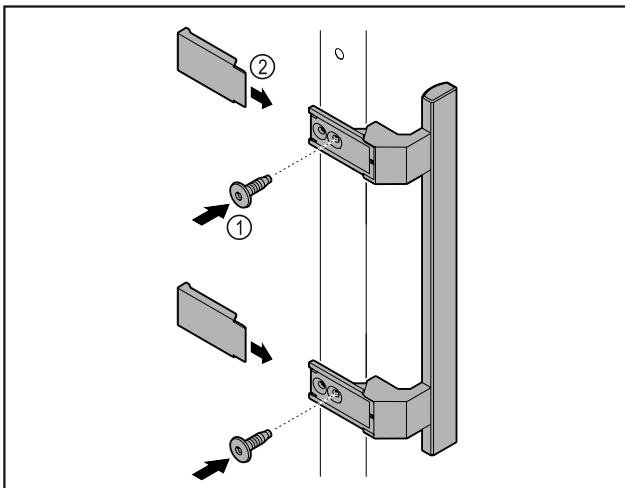

Fig. 5
- Attach handle from accessory kit to the door using the screws Fig. 5 (1) supplied.
- Put on cover Fig. 5 (2).